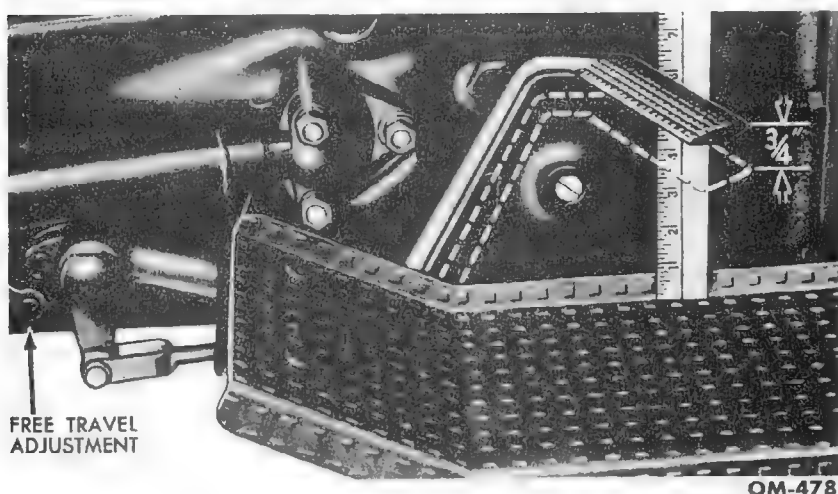

Fig. 45—Clutch Pedal Free Travel Adjustment
e. Adjust Clutch Pedal Free Travel. The clutch pedal should be adjusted to have $\frac{3}{4}$ inch free travel. The adjustment screw is located on the clutch pedal. Fig. 45 shows the method of adjusting and measuring the clutch pedal free travel.